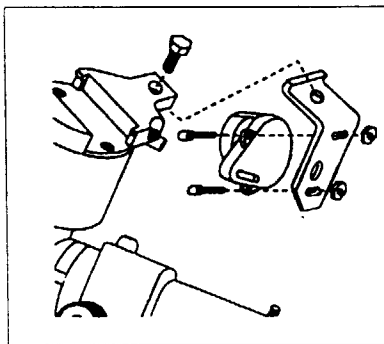

Figure 1
2. Slide the portion of the bracket with the lip into the cut out on the top of the mount just below the telescope mounting platform (see figure 1).